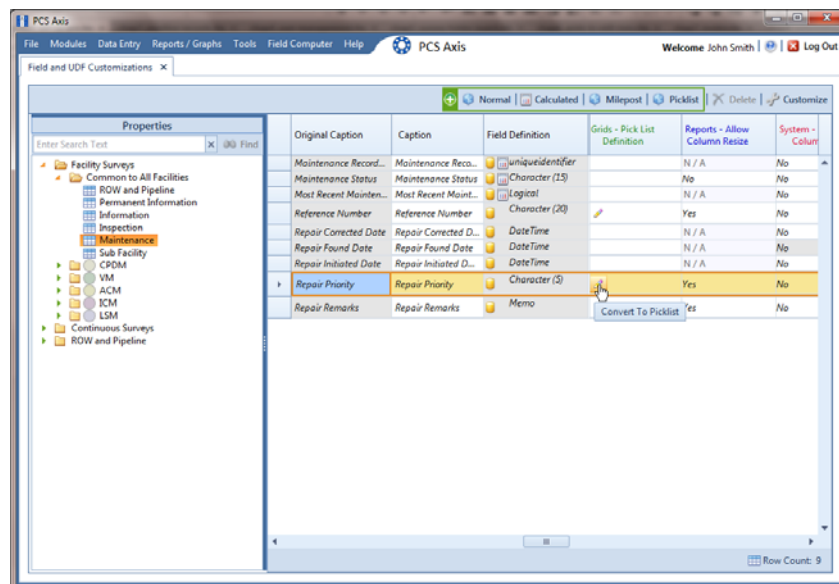

Figure 3-40. Field and UDF Customizations
For example, double-click **Facility Surveys > Common to All Facilities > Maintenance** to display a grid with fields and property settings related to all *Maintenance* data entry grids (Figure 3-40).
- 5 Convert the selected data entry field to a picklist field. Click the edit icon  in the *Grids-Picklist Definition* field for the data entry field selected earlier, such as *Repair Priority* (Figure 3-40, page 83).